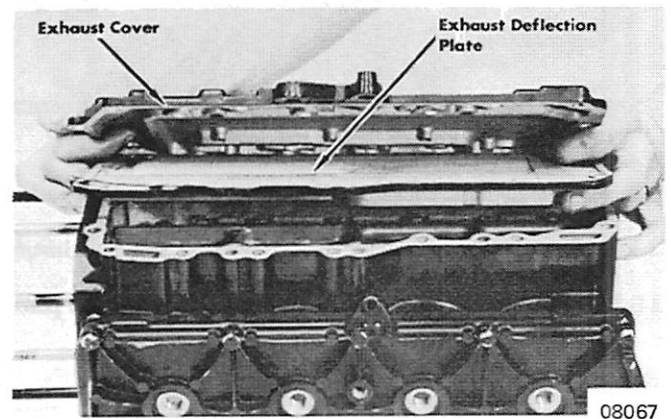

Figure 5. Removing Exhaust Cover
5. Remove screws from exhaust cover and remove exhaust cover and exhaust deflection plate. (Figure 5)